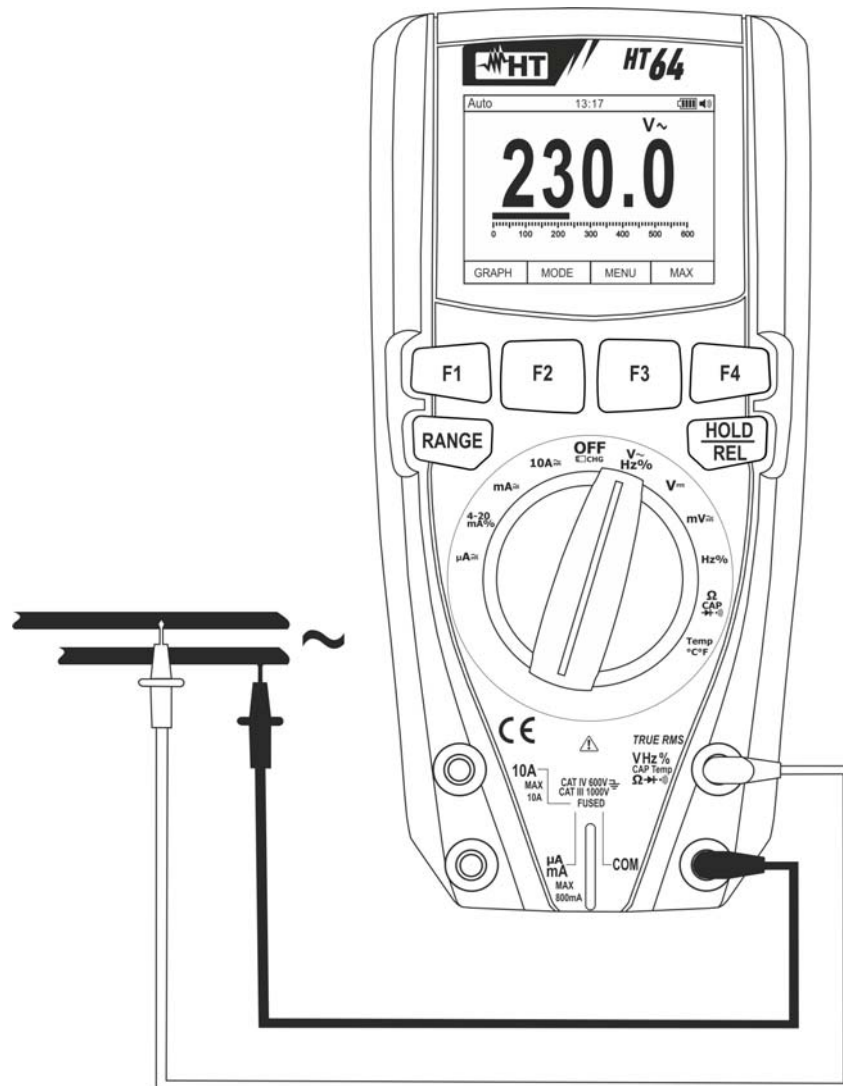

Fig. 23: Use of the instrument for AC voltage measurement
4. Position the red lead and the black lead respectively in the spots of the circuit to be measured (see Fig. 23). The display shows the value of voltage.